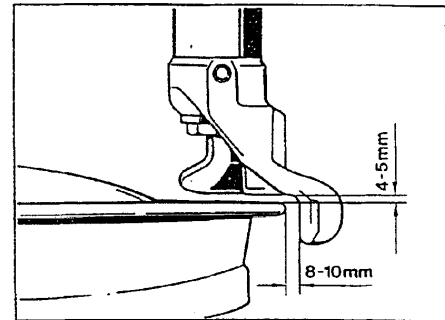

Figure 1
- Check the adjustment of the assembly head (Figure 1).